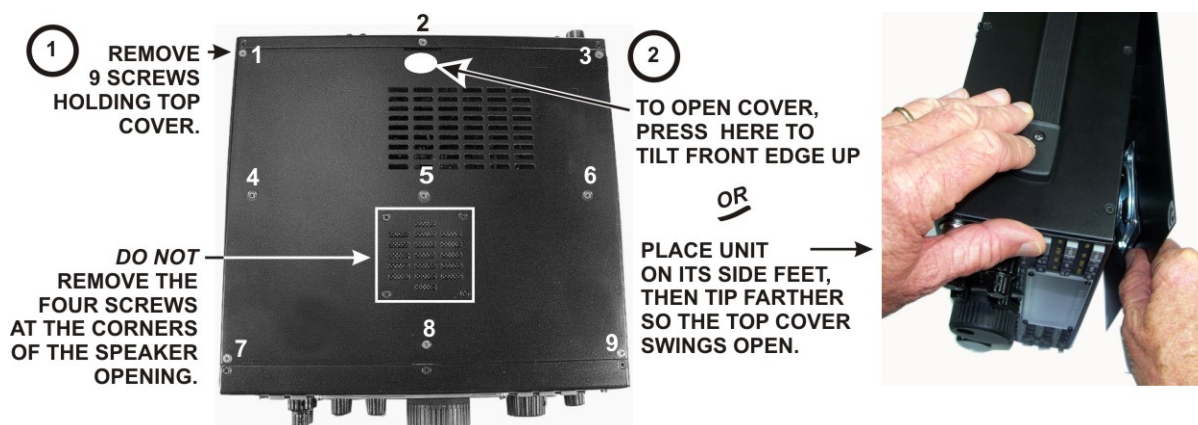

Figure 1. Removing K3 Top Cover.
- ☐ Remove the nine screws to free the top cover as shown in Figure 1. After the cover is open, lift it gently to reach the speaker wire connector. Unplug the speaker then set the top cover aside in a safe place.
- ☐ Position the top cover on the K3. Note that the tab on the back center goes under the rear lip of the K3 rear panel. Secure the top cover with the nine 4-40 3/16" (4.8 mm) black flat head screws you removed earlier (see Figure 1 on page 6 for the screw locations).